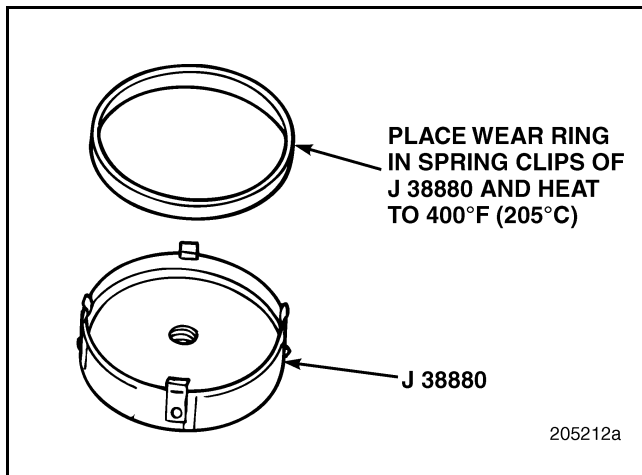

Figure 224 — Crankshaft Wear Ring Installation
1. Position the wear ring in the spring clips of the wear ring installer J 38880 with the arrow pointing away from the installer tool. Refer to Figure 224.